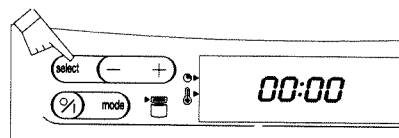

Fig. 3
3. Each function has a preset temperature which can be adjusted to adjust press the temperature (in 5°C steps)  touch control once (fig. 3) and the  touch controls (fig. 4).